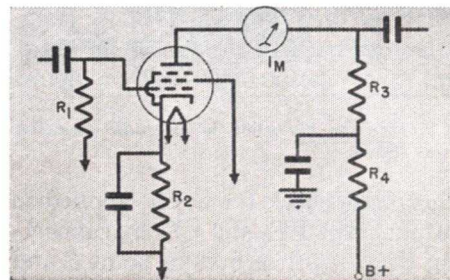

FIG. 15. Distortion is occurring if the plate current changes when signals are applied to a class A stage.
► Current measurements quickly spot class A stages in which distortion exists. Just connect a current meter in the plate circuit, as in Fig. 15, and notice whether the reading changes when signals are applied. You learned from Figs. 4 and 5 that distortion causes a change in the average plate current when signals are applied.
It's easier to make this check if you measure the plate current indirectly, instead of breaking the plate or cathode circuits for a direct measurement. Notice the plate current of the tube in Fig. 15 flows through resistors  $R_2$ ,  $R_3$  and  $R_4$ . If the plate current changes, the voltage across these resistors will also change, so all you need do is connect a voltmeter across one resistor and notice whether the reading changes when a signal is applied. An increase in voltage means an increase in plate current, while a decrease in voltage means the plate current has decreased.